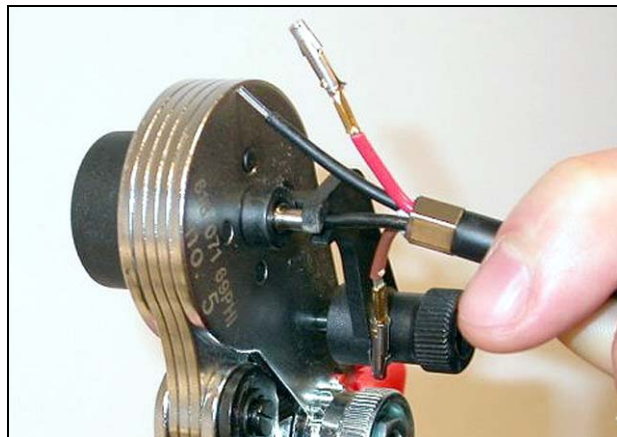

figure 3.19: Crimping ferrules (1)
- 21 Insert a plastic optical fiber into the ferrule in the spring-loaded stop of the POF positioning tool (see figure 3.19).